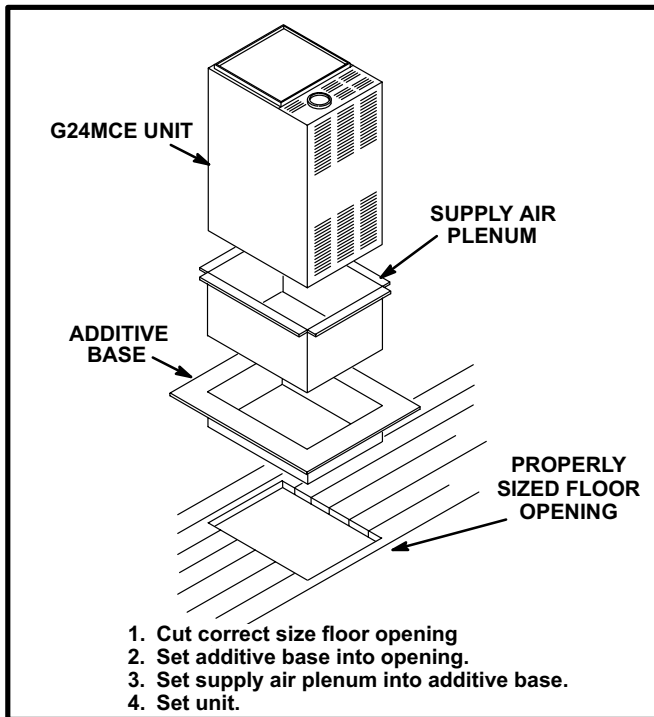

FIGURE 8
- 5 - Set unit on additive base so unit flanges drop into plenum. Refer to figure 8.